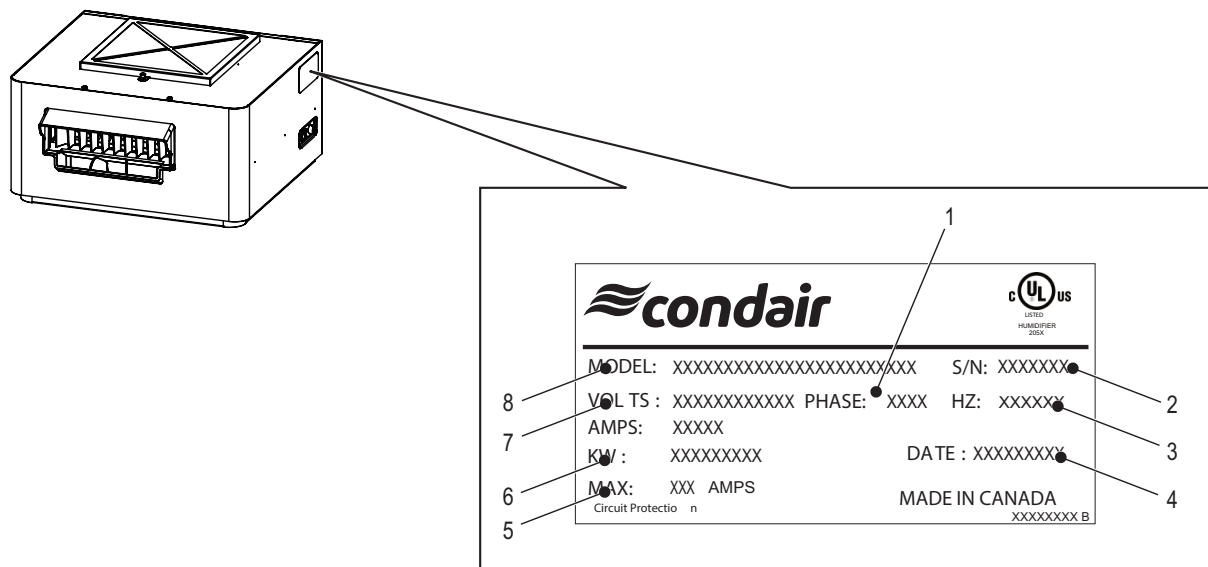

Figure 2: Specification Label
- Verify the model type on the specification label to ensure that it is suitable for your installation. Refer to Figure 2 on page 12.
The specification label on the side of the Nortec BP shows its model type, serial number and other ratings. Refer to Figure 2.
- ☐ The available voltage and phase of the power supply should match the requirements for the Nortec BP-Series blower pack, as indicated on the specification label. Refer to Figure 2 on page 12.